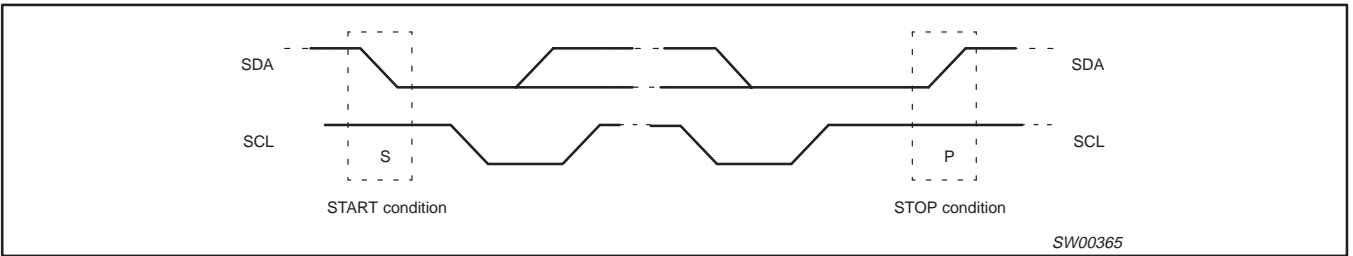

Figure 2. Definition of start and stop conditions
Both data and clock lines remain HIGH when the bus is not busy. A HIGH-to-LOW transition of the data line, while the clock is HIGH is defined as the start condition (S). A LOW-to-HIGH transition of the data line while the clock is HIGH is defined as the stop condition (P) (see Figure 2).